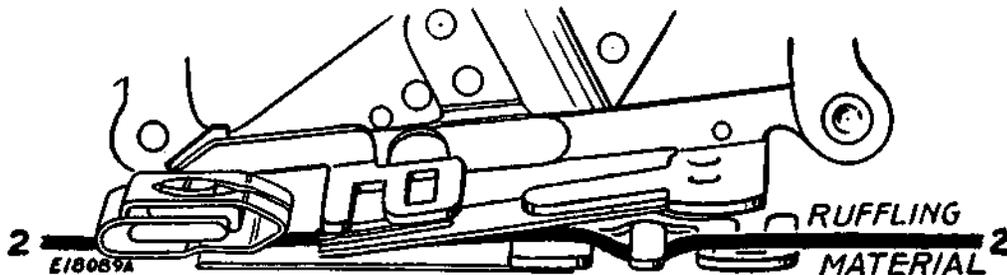

FIG. 70. CORRECT POSITION FOR THE MATERIAL
- (2) Insert the material to be plaited between the two blue blades **Line 2, Fig. 70.**